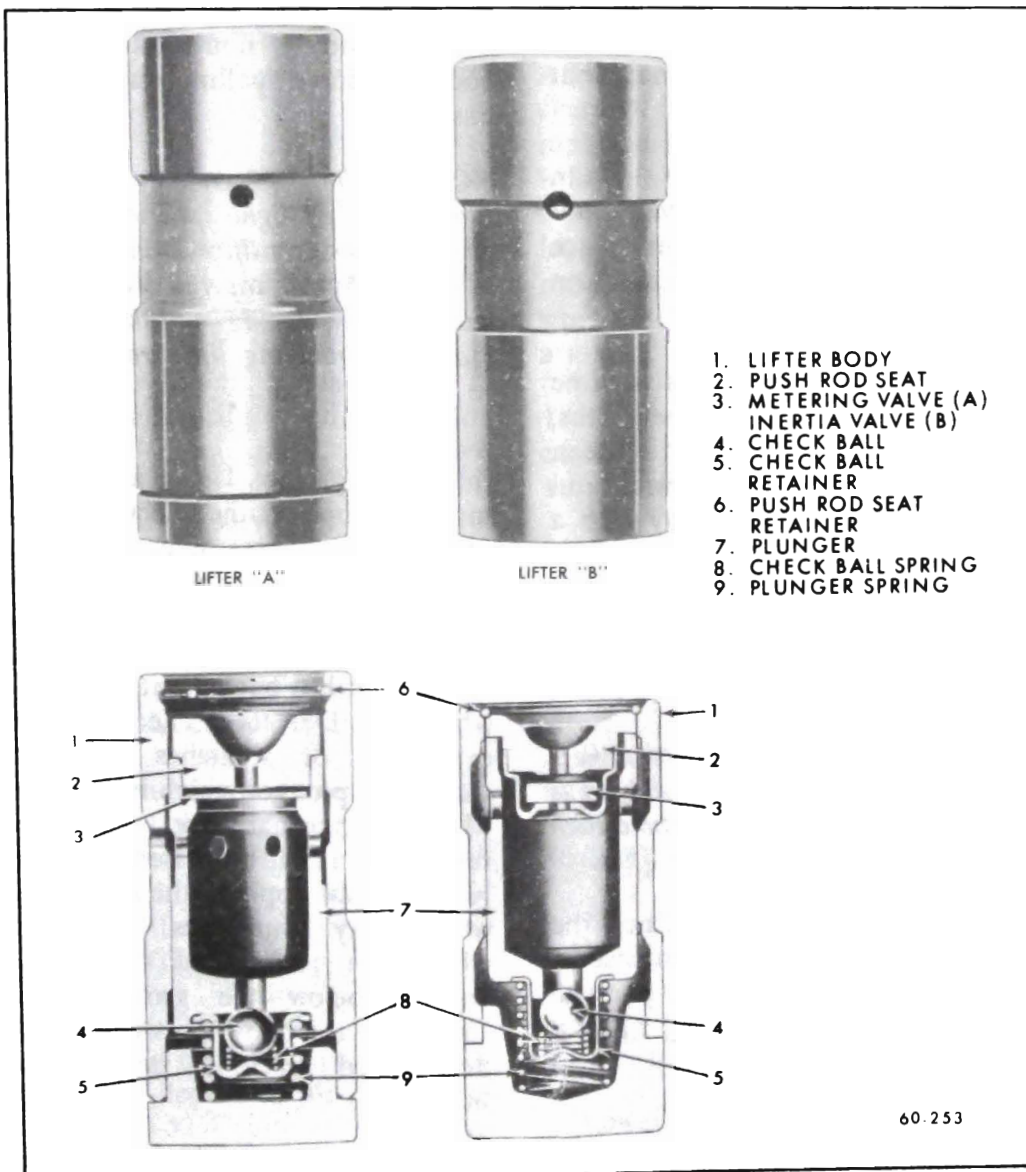

Figure 60-107 - Hydraulic Valve Lifter Parts
NOTE: Two types of hydraulic lifters are used. Both types of lifters operate on the same principle and are serviced basically in the same manner. The complete lifter assemblies are interchangeable but parts from one lifter are not interchangeable with another. Both lifters are easily identified by the outside configuration of the lifter body. For purposes of identification we refer to them as lifter 'A' and lifter 'B'. See Figure 60-107.
9. Remove the push rod seat and metering valve (lifter "A") or the inertia valve assembly (lifter "B"). See Figure 60-107.
20. Hold plunger in vertical position with feed hole up, then rinse and install the check ball, checkball spring, ball retainer, spring, and body over the plunger. See parts in Figure 60-107.